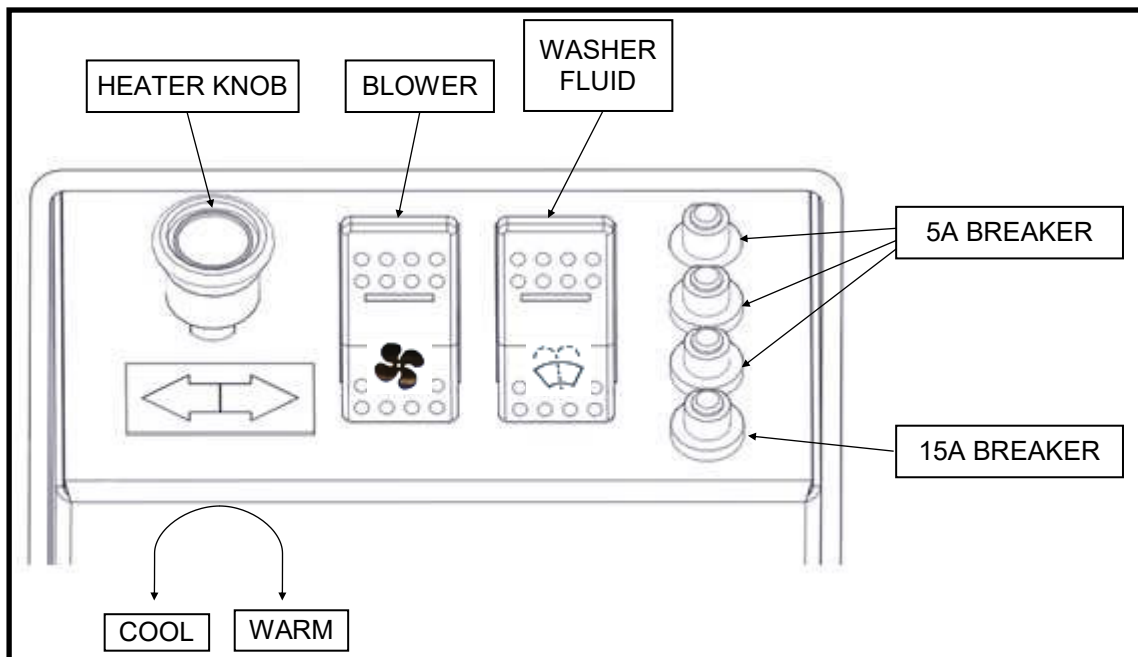

Figure 2: Console Controls
5. See Figure 2 for circuit breaker location. If the breaker is tripped, the white button will pop out. To reset simply push the button back in.